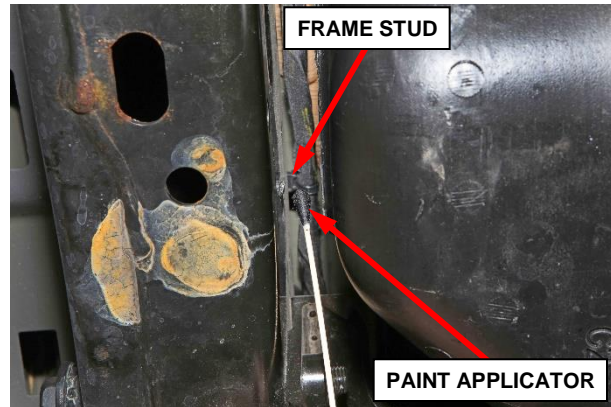

Figure 9 – Apply Paint to Frame Stud
3. Obtain black spray paint specified in the Parts Section and a brush or cotton swab or suitable applicator. Spray a small amount of paint into a cup to dip the applicator or directly onto the applicator then apply the paint to the vehicle frame covering any bare exposed metal in the location of the removed frame stud (Figure 9).